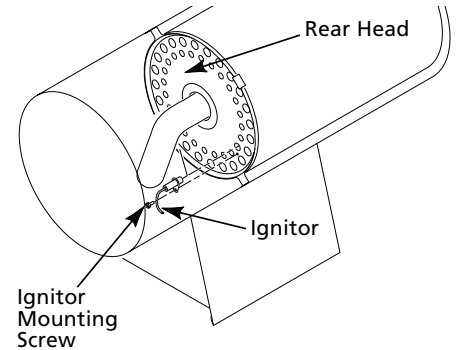

Figure 15 - Removing Ignitor Mounting Screw and Ignitor
- Remove ignitor mounting screw from rear head using nut-driver or standard screwdriver (See Figure 15).